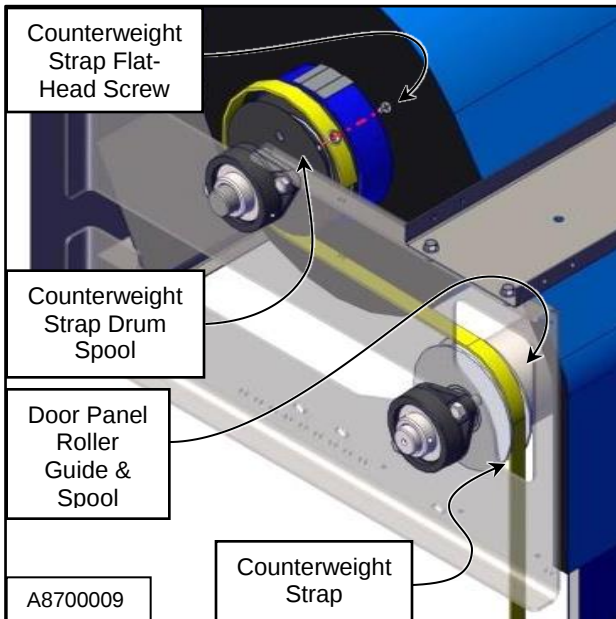

Figure 50
8. Remove and save the screw securing the strap to the drum spool. (See Figure 50)
9. Attach the new strap to the drum spool in the same manner as the old strap using the saved screw. (See Figure 50)